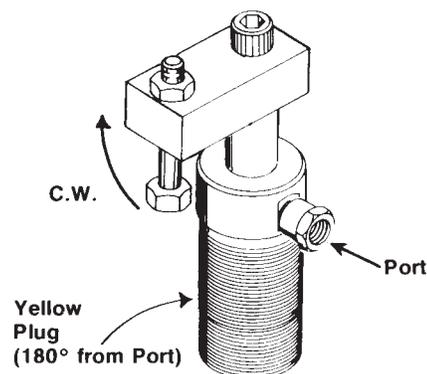

FIGURE 1
1. If required, a clamping bolt (3/8-16 UNC-2A X desired length) can be assembled to the top of the swing clamp arm. See Figure 1.